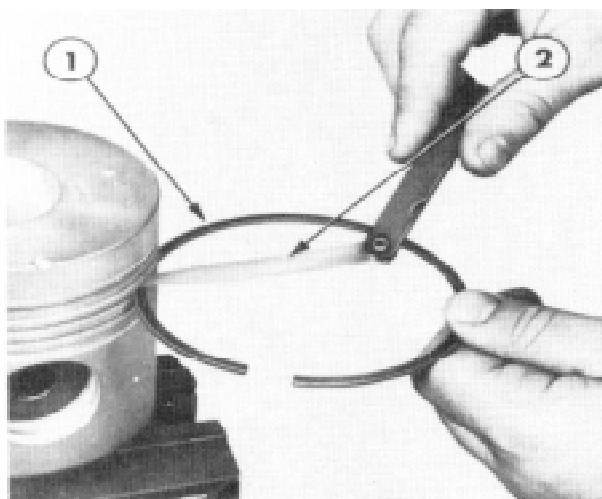

Figure 21
1. Inspect pistons for damage at the ring lands, skirt, and pin bosses. Check for separation of the top ring insert from the piston. Check for wear in the ring lands by using a new ring and a feeler gauge reference Figure 21.